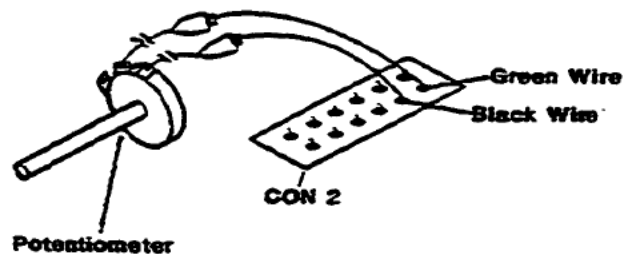

Figure 5-9. Low Water Probe Test Connection
4. With probe disconnected, connect the potentiometer between the common (green) wire and the black wire that leads bad to CON 2 (see Figure 5-9).